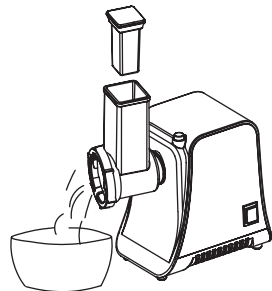

Figure 18.
7. Feed vegetable into the shredding head and push it down using the shredding pusher (fig. 18).